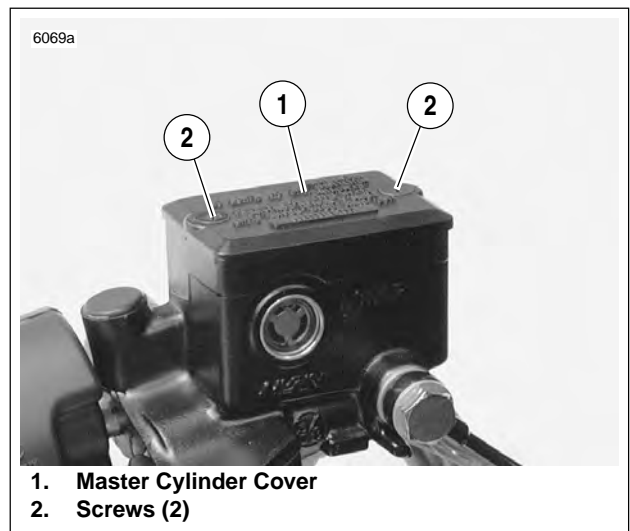

Figure 2-33. Master Cylinder Cover
5. See Figure 2-33. Remove both master cylinder cover screws (2). Remove master cylinder cover (1) and gasket.